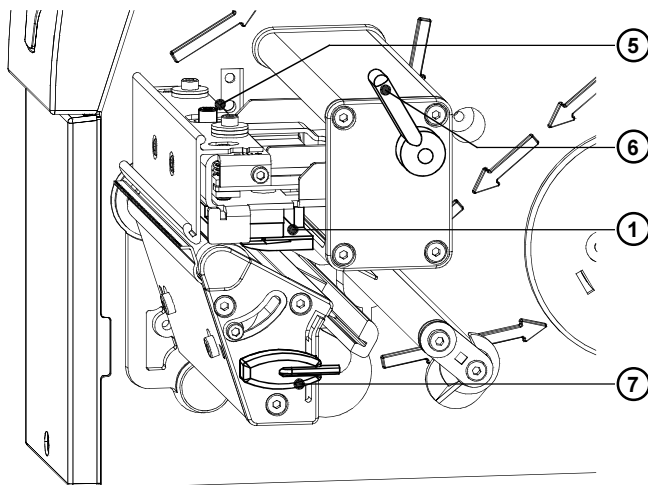

Fig. E-2 Changing Printhead A3-2/A3/A4 (I)
2. Swing the lever (6) to the position shown in figure E-2. In this position, the printhead assembly is unlocked but still lying on the print roller.
3. Loosen the printhead locking screw (5) using the Allen key (7).
4. To lift the printhead assembly, swing the lever (6) clockwise until it stops.
5. Remove the printhead (1) from the pins (11) on the printhead carriage.
6. Carefully unplug the printhead (1) from the connectors of the printhead cables (9 and 10).
8. Place the printhead into the assembly and insert the holes (8) onto the pins (11).
9. Tighten the locking screw (5) by hand. Check that the printhead is completely secured in the printhead carriage.
10. Swing the lever (6) again into the position shown in figure E-2.
11. Tighten the locking screw (5) completely. Do not over-tighten the locking screw (5).